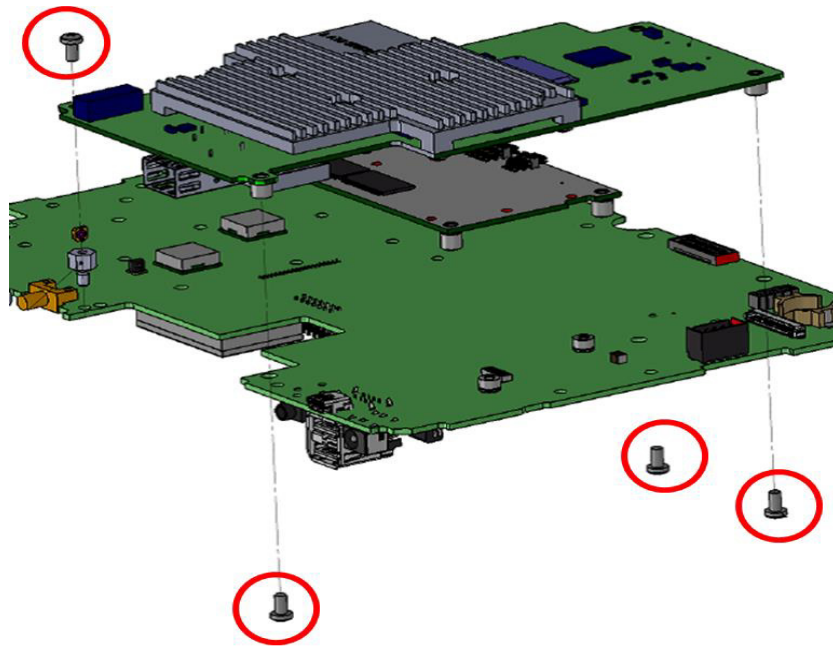

Figure 7-9. Remove Screws Securing Option PCB to Main PCB
4. Remove the screws securing the Option PCB to the Main PCB as shown in Figure 7-9